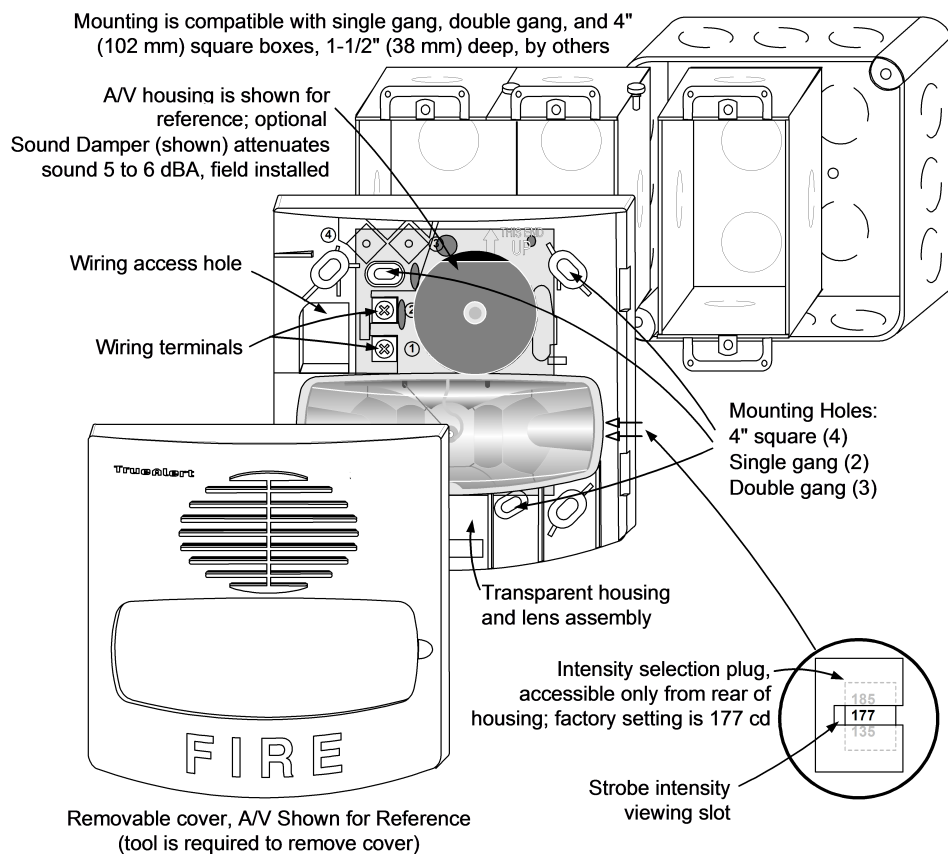

Fig 2: Installation reference, surface or semi-flush mounting
**Note:** Figure 2 shows optional A4905-9838 sound damper.